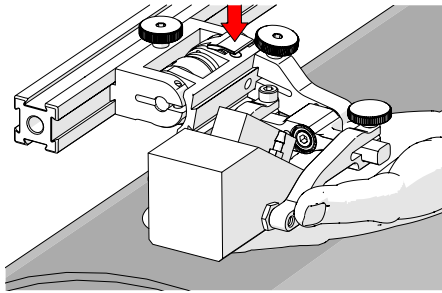

Fig. 139 - Lift and press latch button
3. Lift probe slightly and press latch button (Fig. 139) to apply spring pressure to the wedge.